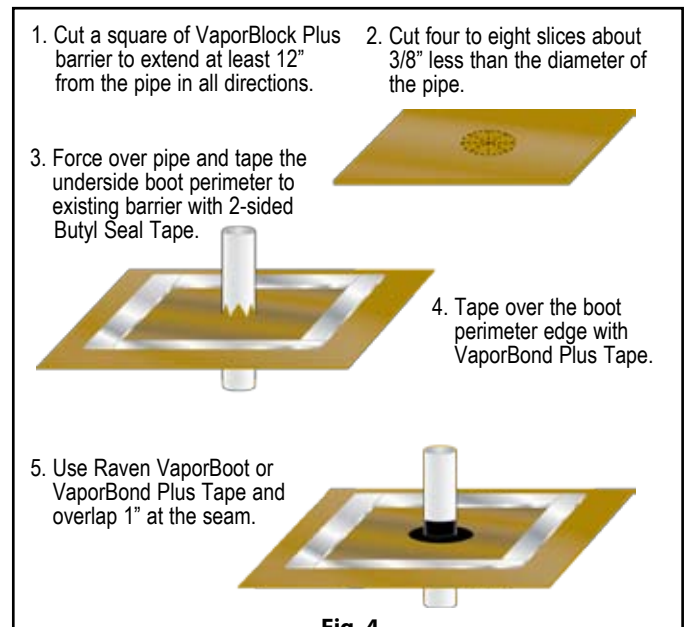

Fig. 4
Pipe boots may also be fabricated from excess **VaporBlock Plus** membrane (Fig. 4 & 6) and sealed with VaporBoot Tape or VaporBond Plus Tape (sold separately).
To fabricate pipe boots from **VaporBlock Plus** excess material (see Fig. 4 & 6 for A-F):
- F) Complete the process by taping over the boot perimeter edge with VaporBond Plus Tape to create a monolithic membrane between the surface of the slab and gas/moisture sources below and at the slab perimeter. (Fig. 4 & 6)